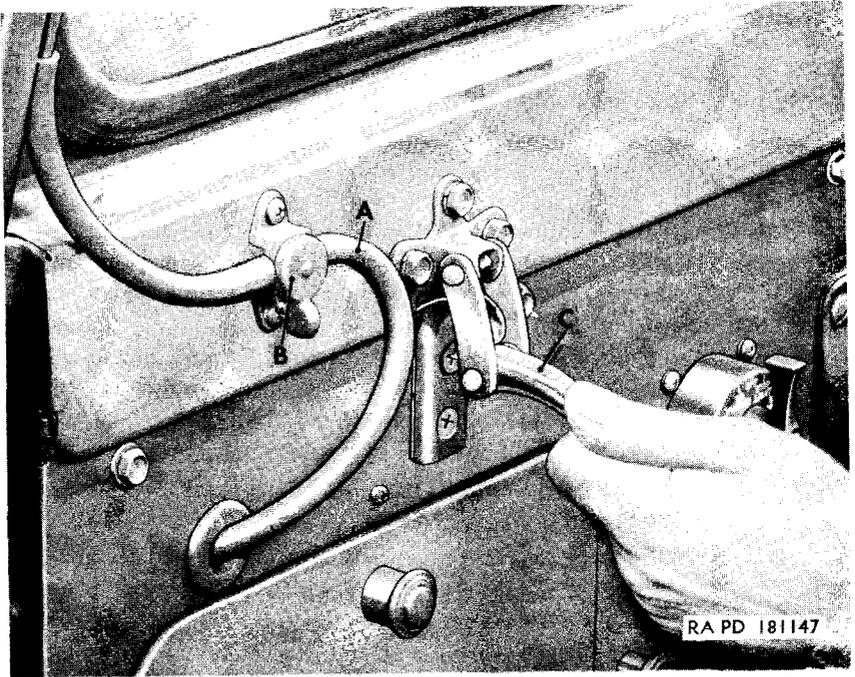
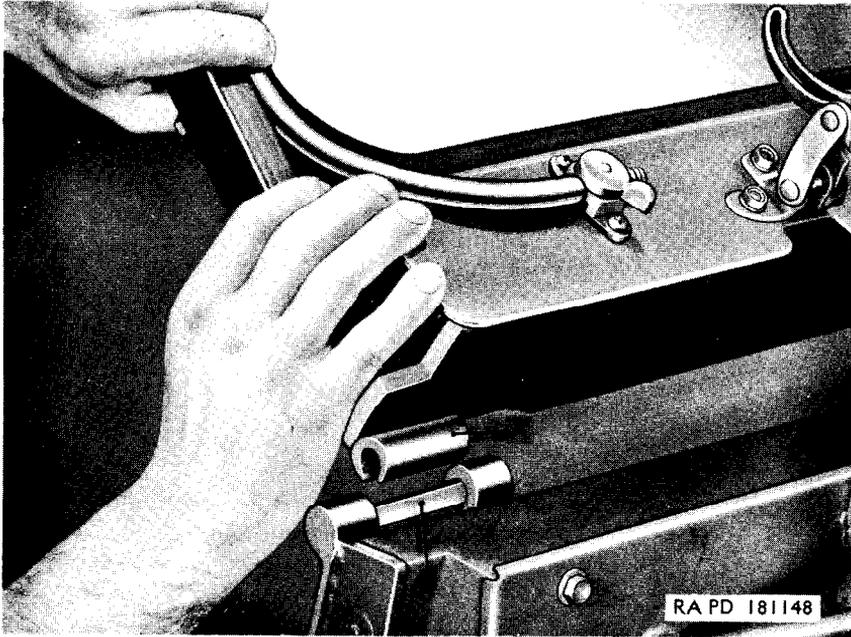

Figure 11. Disconnecting windshield wiper hose from windshield wiper and regulating valve.
Figure 12. Removing windshield assembly.
- a.* Pull windshield wiper hose (A, fig. 11) from air regulating valve (B, fig. 11).
b. Unhook windshield lock (C, fig. 11) at each side of windshield assembly. Lower windshield assembly forward until slots in male half-hinges (A, fig. 12) align with flat faces of female half-hinges (cowl halves) (B, fig. 12). Slip female half-hinges off pins and remove windshield assembly from body.